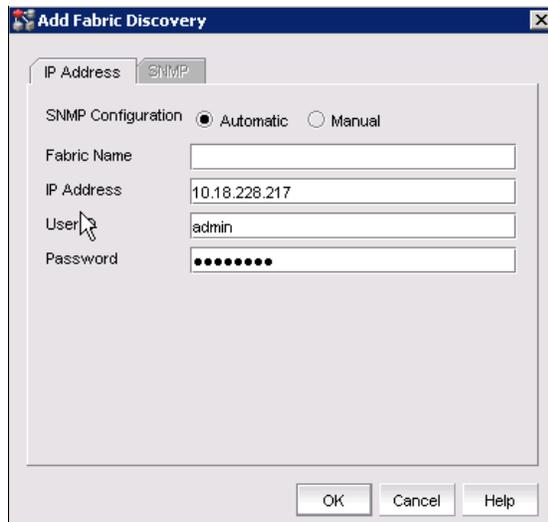

Figure 6-14 Input for fabric discovery
16. The Add Fabric Discovery window is displayed. Enter the management IP address and user authentication of the physical chassis (Figure 6-14).